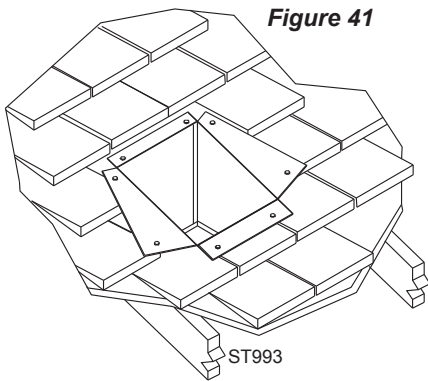

Figure 41
Step 5. Using tin snips, cut the support box from the top corners down to the roofline, and fold the resulting flaps over the roof sheathing. The flaps may be trimmed as needed. (Fig. 41) Before nailing it to the roof, run a bead of non-hardening sealant around the support box to make a seal between the support box and the roof. Clean out any combustible material from inside the support box.